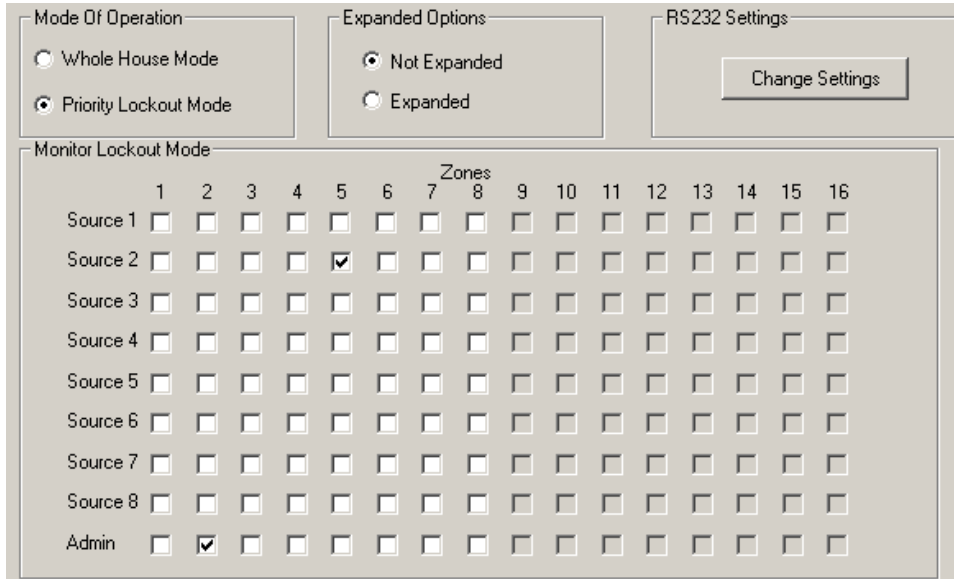

Figure 35 - Monitor Lockout Mode
i.e. If Source #2 is a DVD player that should not be viewed by those in ZONE 5, select the box at the cross section of Source 2 and Zone 5 as displayed in **Figure 35**